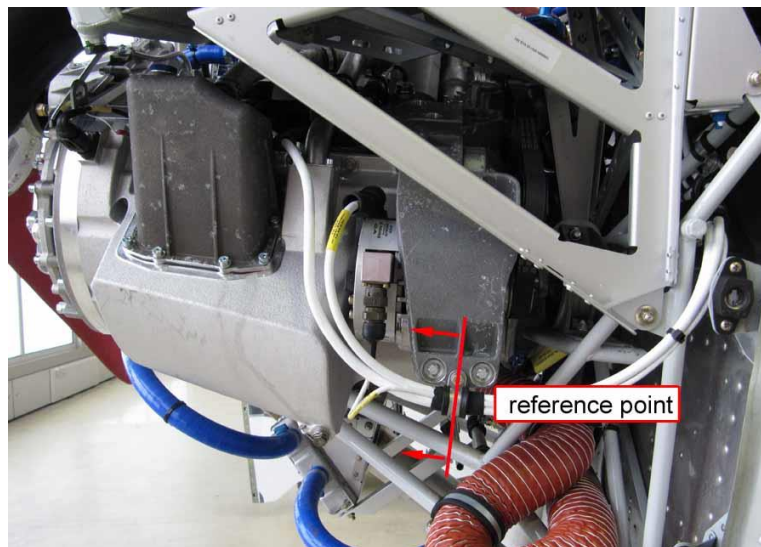

Figure 1
- Remove all cable ties between reference point (clamp) and alternator connection as well as starter connection, see figure 1.